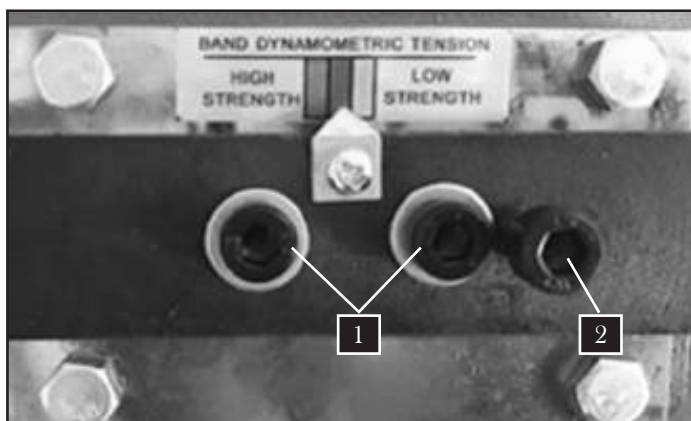

Fig. 31
6. To adjust the blade tracking, loosen the two shaft locking bolts (Fig. 31 - 1).
7. Slowly turn the set screw (Fig. 31 - 2) with a hex wrench, while observing the blade tracking on the wheel.
8. Once the blade tracking is complete, tighten the two shaft locking bolts (Fig. 31 - 1).